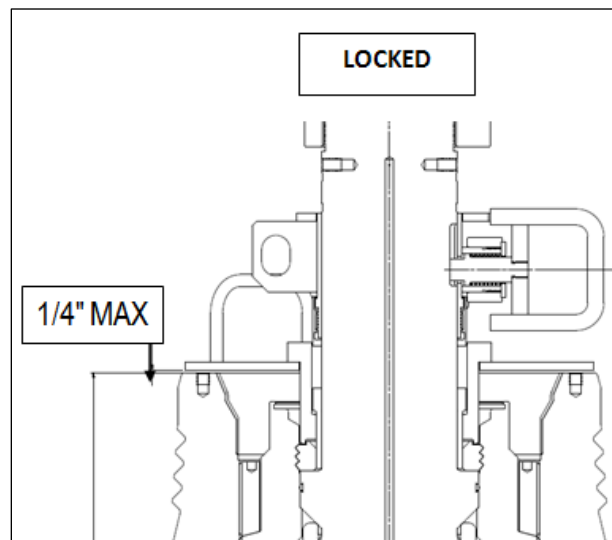

Figure 25: MTRT Land-Out
2. Using the 3" 120 Ton shackle, Install the MTRT into the XT, taking care not to bump XT seal areas, XT locking profile, or MTRT Lock Segments. The stab nose and bumper will minimize any risks of damaging the seal areas. The Top Plate should be about 0.17" from the top of the XT hub when the MTRT is fully landed. See Figure 25.
5. Continue to slowly lower the MTRT into the top of the tree. Once landed, the Top Plate should be an average of about 0.17" from the top of the XT hub when the MTRT is fully landed. See Figure 25.